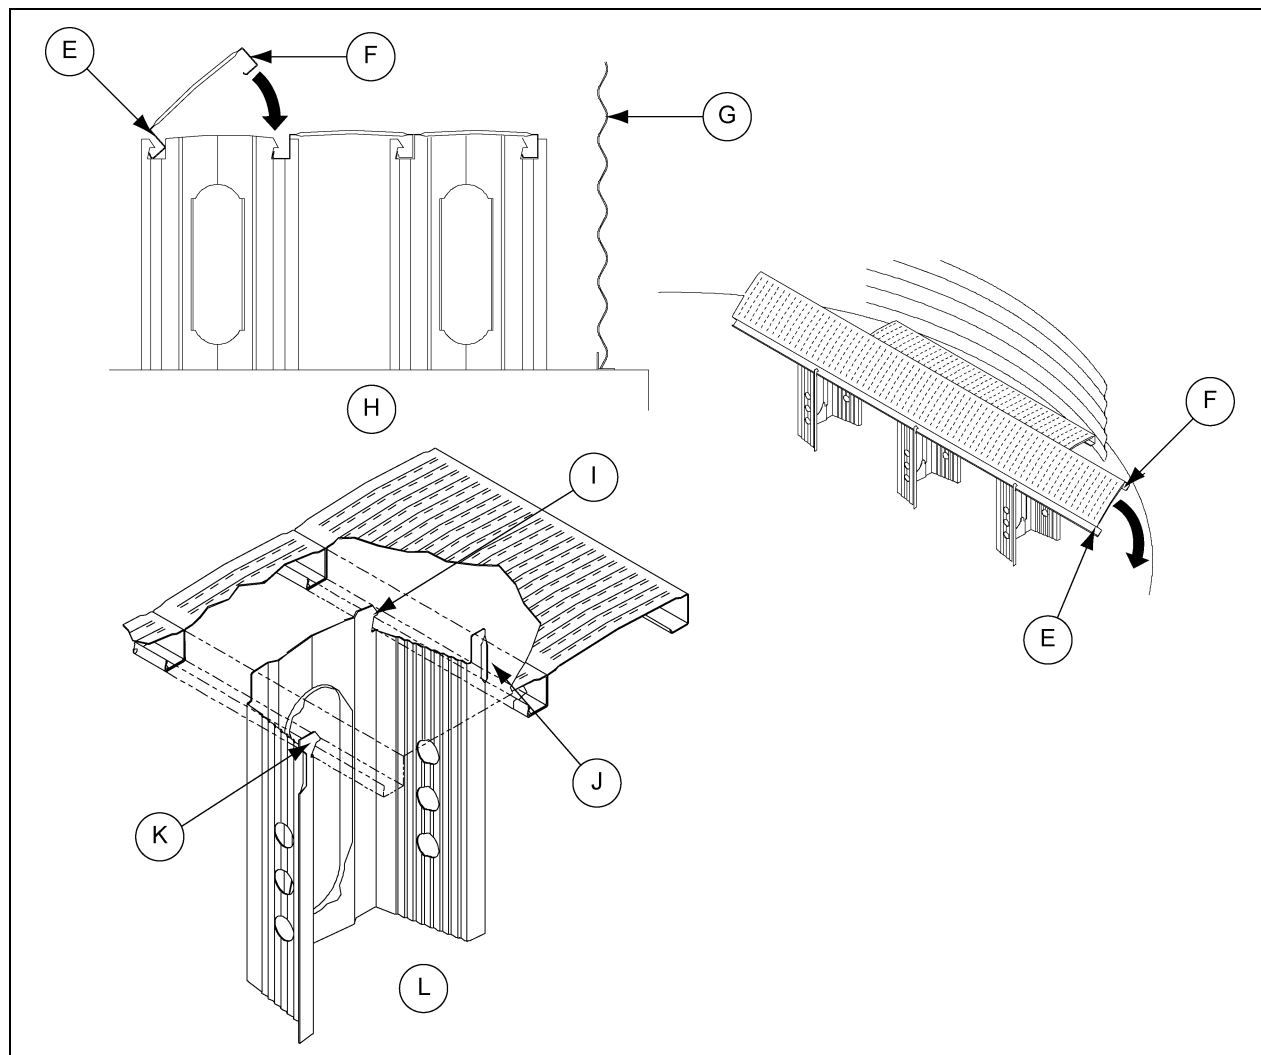
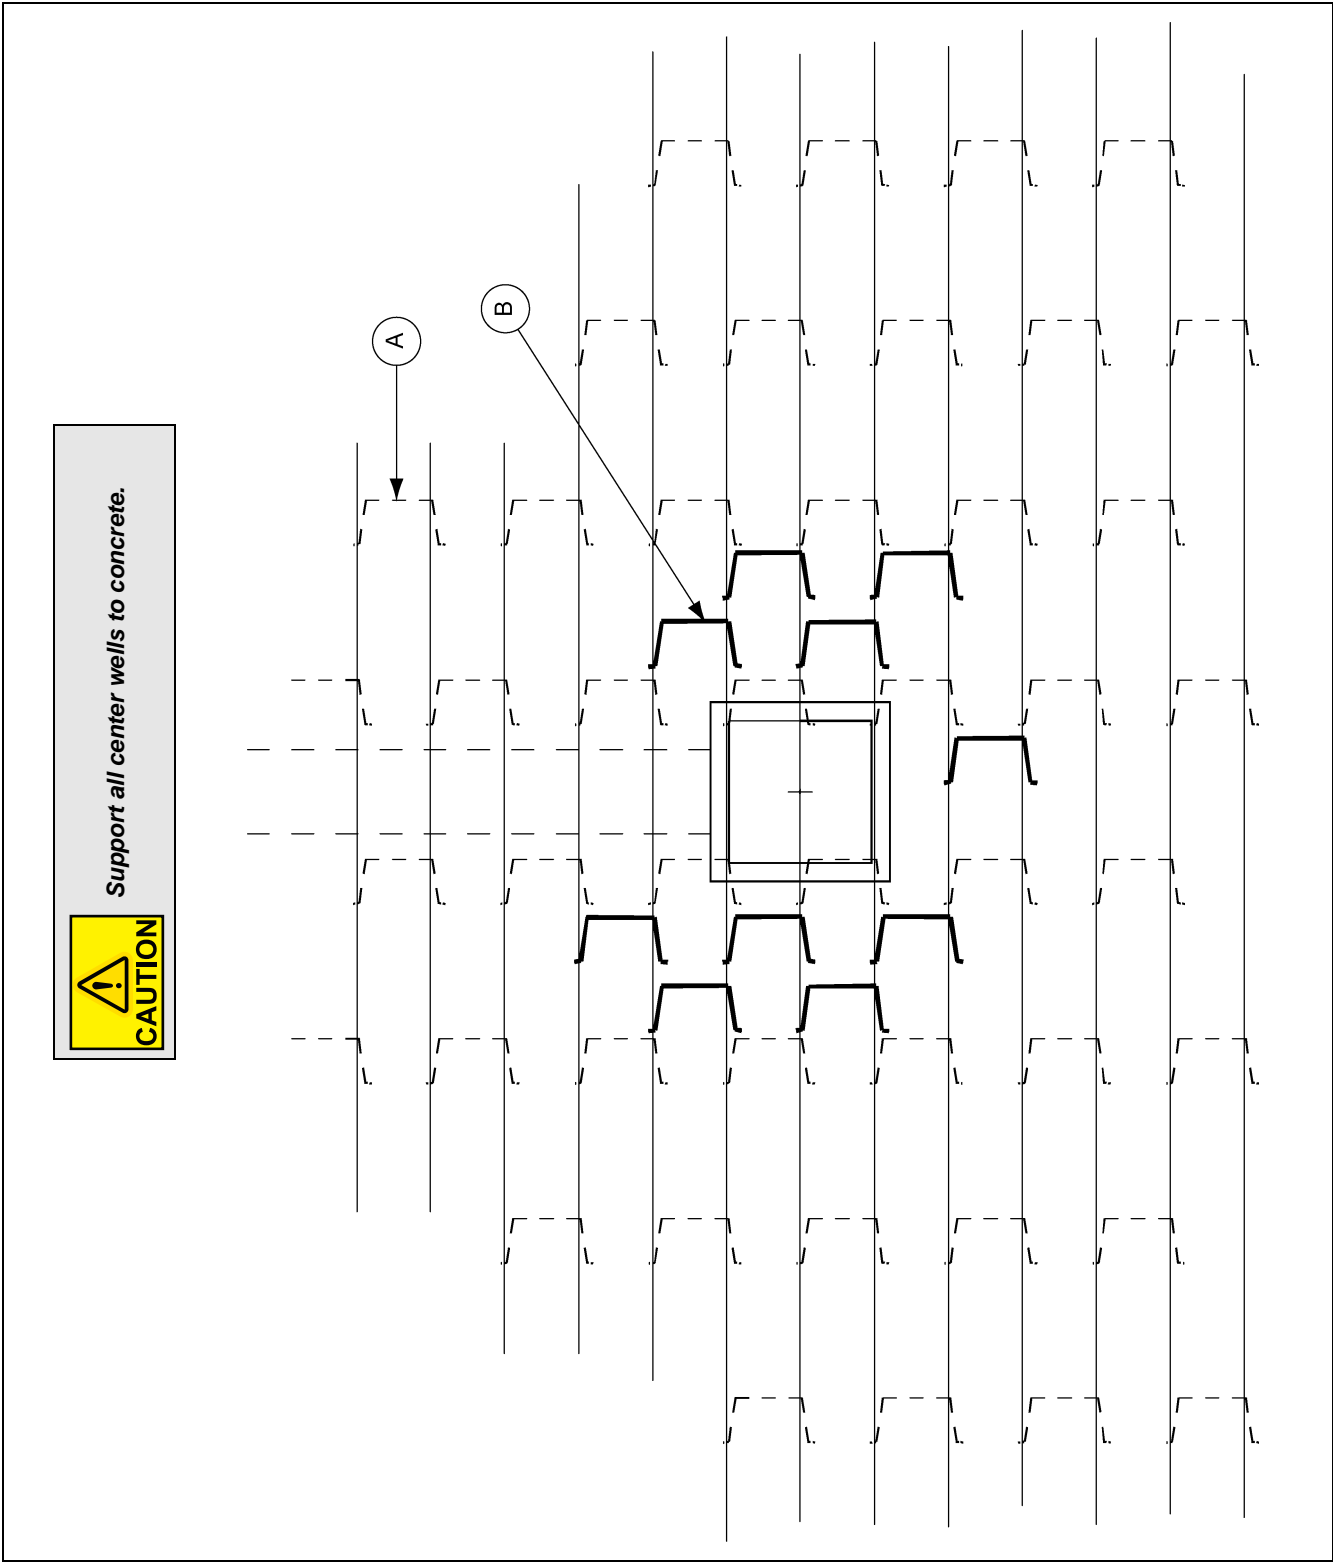
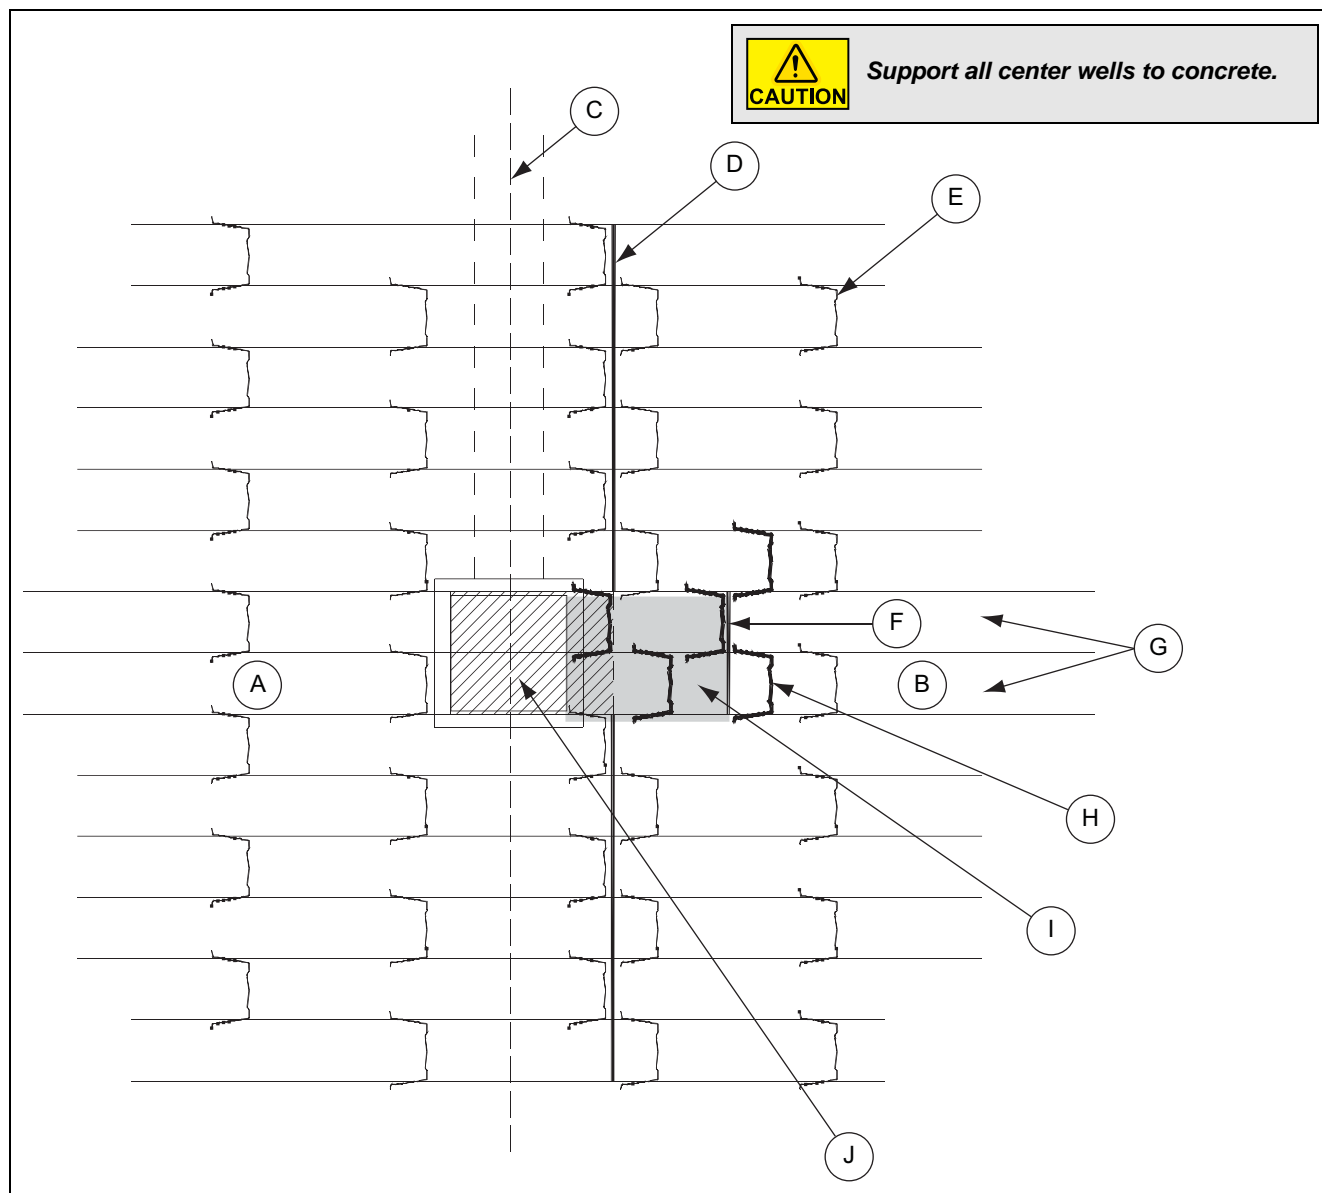
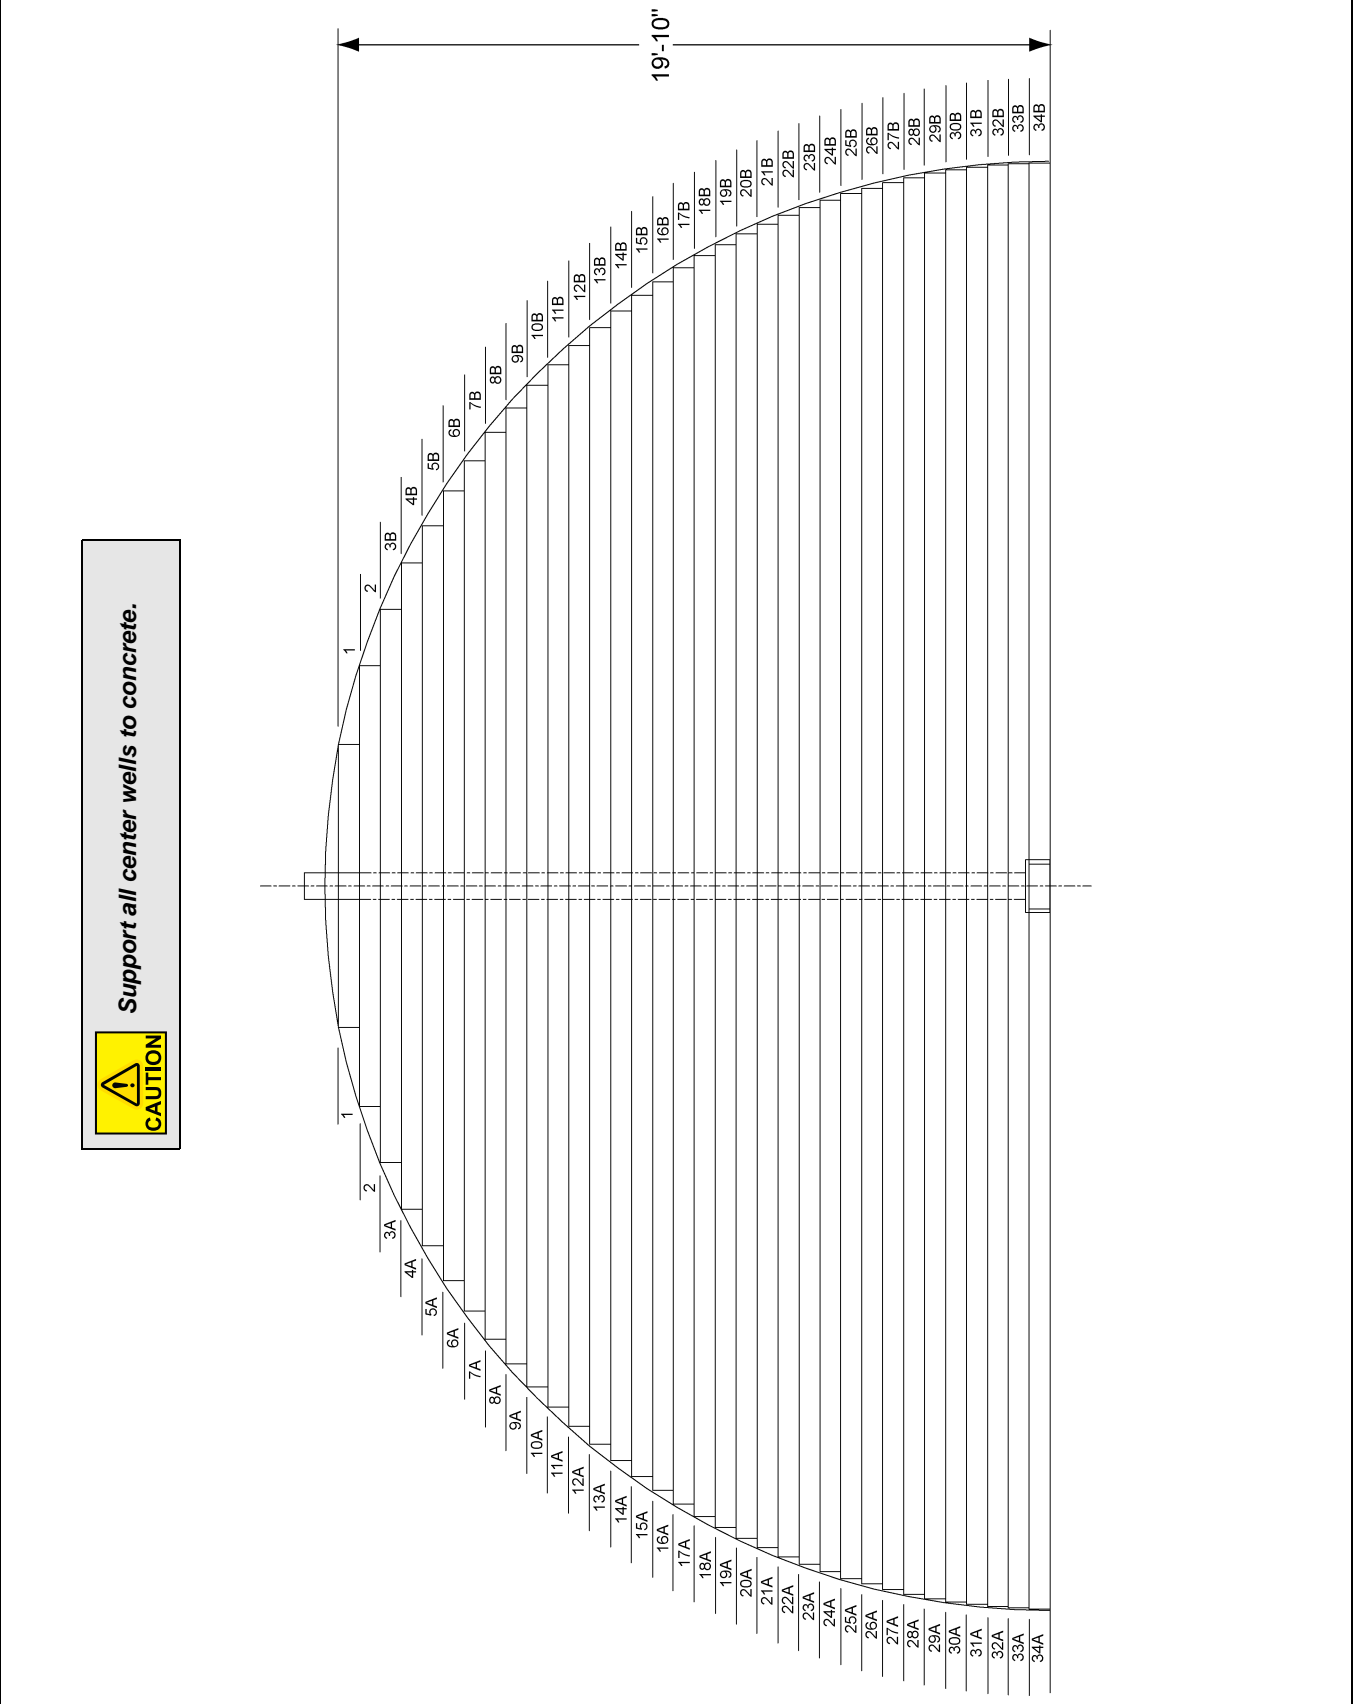

Figure 4C
Figure 7A
Figure 8A
Figure 9A
IMPORTANT: First piece of flooring must start at the proper distance from centerline of bin. Refer to floor layout on Page 23. First piece may need to be trimmed for length to fit at the proper location. (See Figure 4C.)
4. Install flooring starting at the bin wall on the opposite side of the unload auger. Floor planks should be placed perpendicular to the unload auger with the outside edge the correct distance from the center of the bin. (See Figure 9A on Page 23.) Be sure the flat edge of the floor plank is facing the bin wall and the open channel edge (E) is facing towards the center of the bin. (See Figure 4C.) Position the supports for the first/shortest floor plank according to the number of bin rings and corrugation as shown in the illustrations on Pages 25-33 or stated in the charts on Pages 34-35. Attach the flashing to flooring and bin wall to hold plank in place. (See Page 20 for flashing installation.)
5. **POSITION THE NEXT ROW OF SUPPORTS ACCORDING TO THE CHALK LINES** and support layout. The straight tab should “snap” under the first (previous) floor piece. After the supports in the row are correctly positioned, install the next floor piece by hooking the open channel edge (E) under the outside hooks (K) of the floor supports. Push down sharply on the edge of the floor piece until it snaps into the previous floor piece. (See Figure 4C on Page 14.) Continue this process for the rest of the floor cutting planks for center and intermediate wells as needed. See Figure 7A on Page 21 for center well support locations.
6. Some floor planks will need to be spliced together. (See Figure 8A on Page 22, Figure 9A on Page 23 and Plank Length Charts on Page 24.) Install plank length A first, then install the corresponding plank length B by butting plank B up against plank A. Make sure the planks are supported by a grandstand on each side of the splice. Continue until floor is complete.